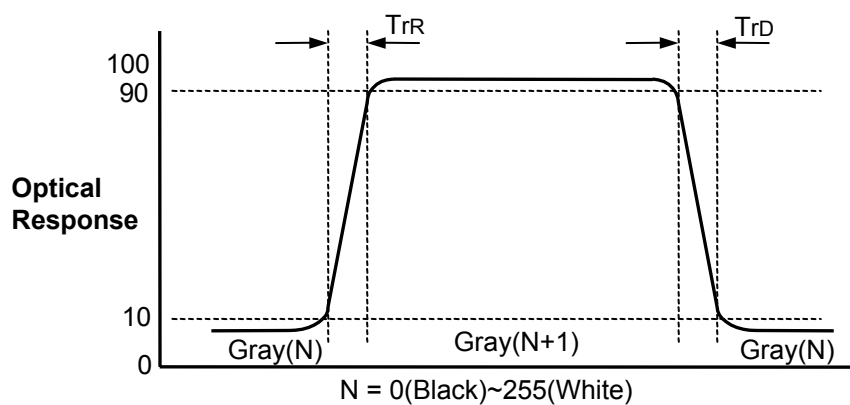

FIG. 3 Response Time
4. Response time is the time required for the display to transition from black to white (Rise Time,  $Tr_R$ ) and from white to black (Decay Time,  $Tr_D$ ). For additional information see FIG 3.